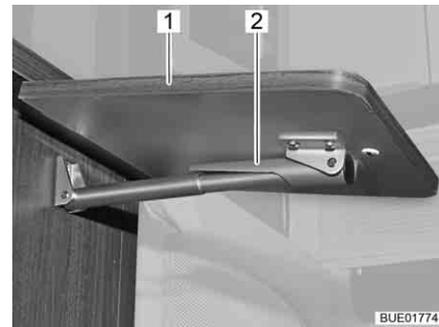

Fig. 123 Folding worktop, unlocked
- Hold the folding worktop (Fig. 123,1) at the edges and lift gently. With your other hand, push the fixture (Fig. 123,2) on the telescopic holder upwards.